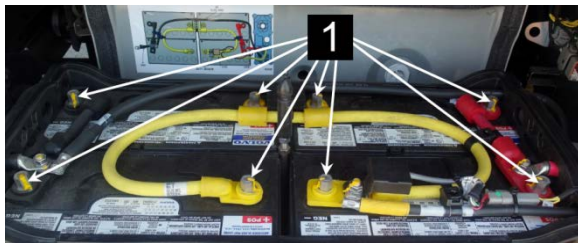

FIGURE 52: INSTALL THE BATTERY CABLE LUGS
5. Connect the battery cables. Tighten the cable terminal (item 1, FIGURE 52) nuts to the following torque: